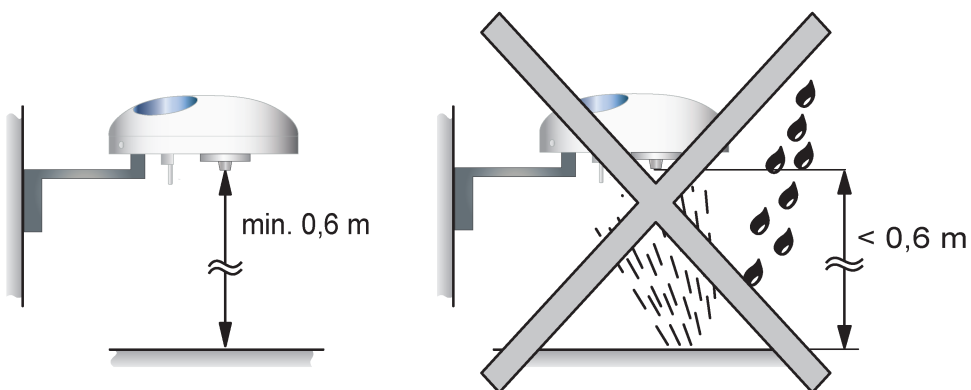

Figure 2: Minimum distance to surfaces
- Attach the fastening arm enclosed with the Weather station comfort plus to a suitable wall. In so doing, always ensure the minimum distance to the surfaces beneath (Figure 2).